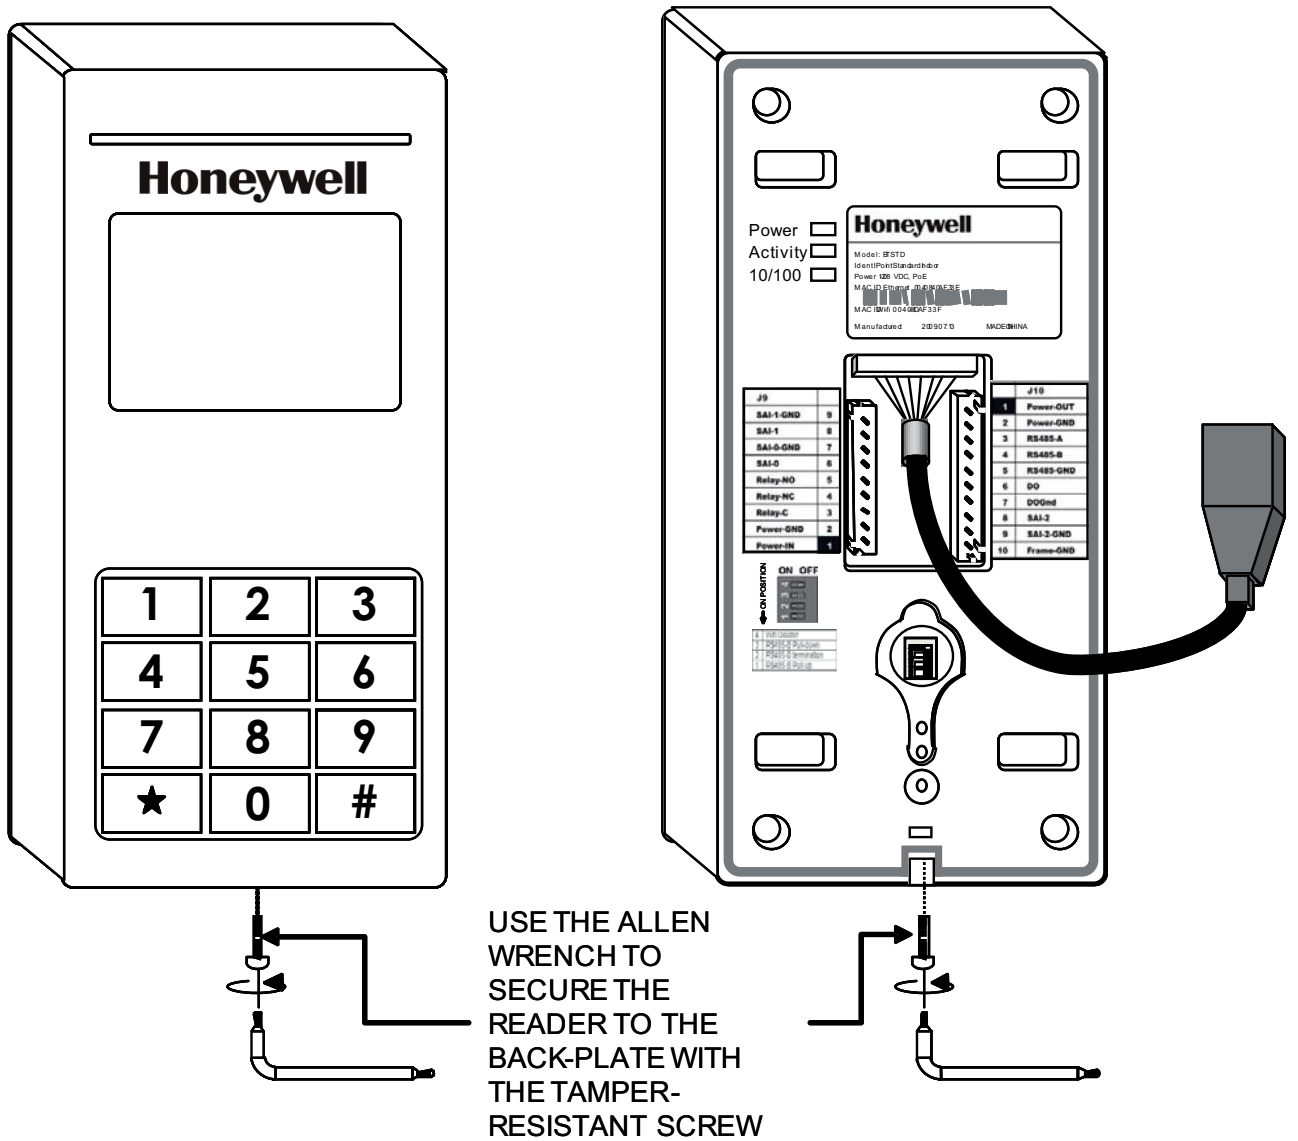

Fig. 10. Securing the IdentIPoint reader to the back-plate
6. Use the Allen wrench to tighten the tamper-resistant screw at the bottom of the reader into the hole provided on the back-plate so as to fasten the reader to the back-plate securely. See Fig.10.
5. Use the Allen wrench to tighten the tamper-resistant screw at the bottom of the reader into the hole provided on the back-plate so as to fasten the reader to the back-plate securely. See Fig.10.